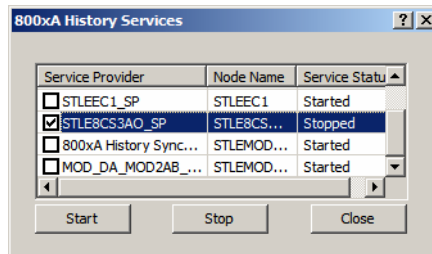

Figure 105. 800xA History Services Window
7. Check the appropriate Service Provider as shown in Figure 105 in the 800xA History Services window and click **Start**.